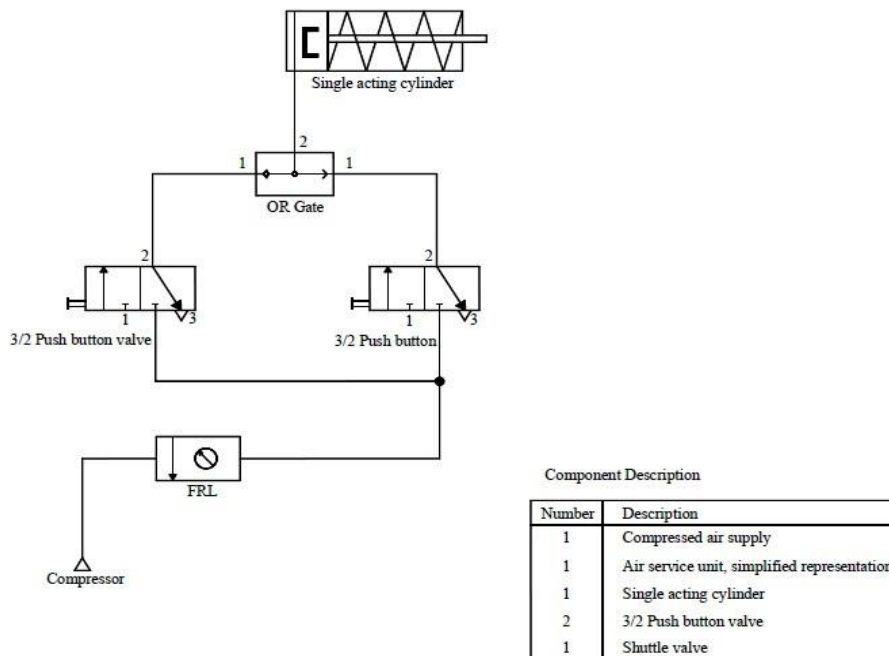

Figure. 2. Circuit Diagram of the OR Logic in the Single Acting Cylinder.
1. Draw the circuit diagram (Refer Fig. 2)